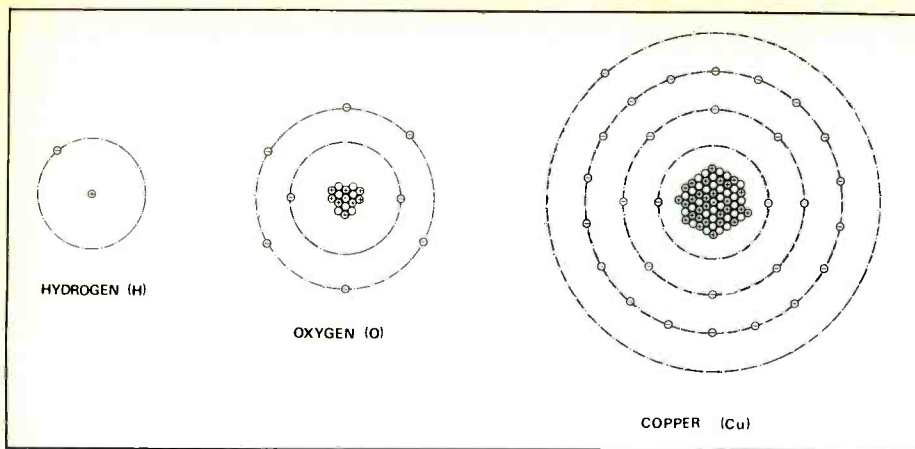

Figure 1
In order to get an idea of how atoms "work," see Fig. 1, which shows schematic representations of atoms of three different elements: hydrogen (H), oxygen (O) and copper (Cu). The central portion of each atom is called the nucleus (plural: nuclei, *noo-klee-eye*) and consists of subatomic particles called protons, represented by circles marked with plus signs. All nuclei other than those of ordinary hydrogen atoms also contain particles called neutrons. These neutrons are represented by empty circles. The circles marked with minus signs represent "orbiting" electrons. Electrons occur in shells around the nucleus, and these shells are represented by the large dashed circles on which the electrons are drawn. There are rules governing how the electrons are arranged in these shells, but a detailed look at that topic
We're almost out of the atomic structure quagmire, but we have to plunge back in one more time. Examine the drawings in Fig. 1 and count the number of plus and minus signs (protons and electrons) in each atom. There should be, if the drawings are correct, equal numbers of plus and minus signs for each atom. Bearing in mind that the electrical charges on the electron and proton are equal though opposite, we can assume that the atom as a whole is electrically neutral. That is, the positive and negative charges cancel each other out, so that outside